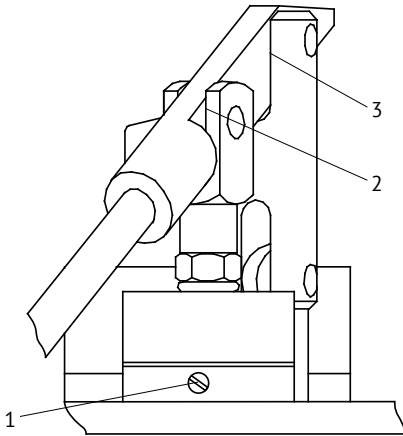

Fig. 8. Hand pump assy
6.8 Loose screw 1 (Fig. 8) by $\frac{1}{2}$ turn. Smoothly work by hand pump unless